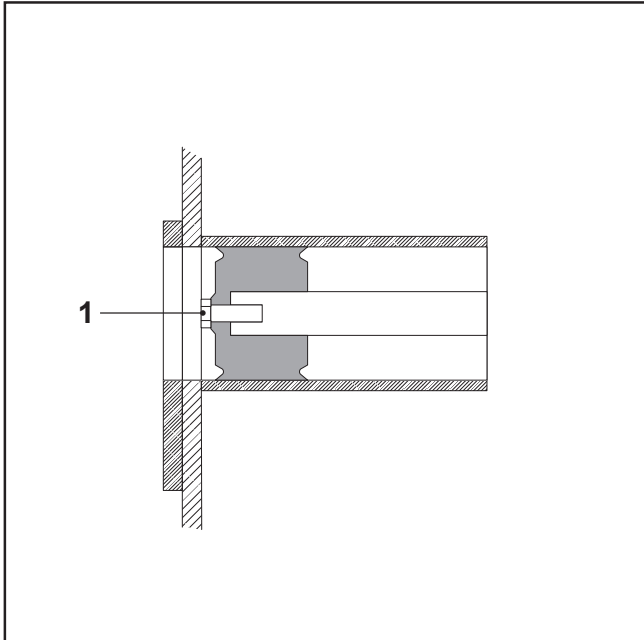

FIG.63
- Remove the screw (FIG. 63-REF. 1) on the piston head.